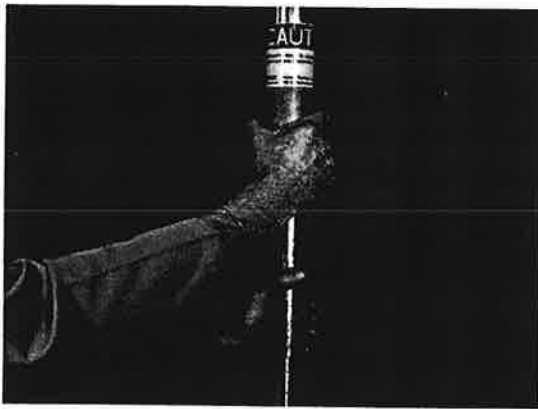

Figure 23. Rotate Feed Tube
- A. By rotating feed tube clockwise, extend drill until it contacts pipe. See Figure 23. The feed tube should be at the first mark on the body tube (lower-in distance). Rotate slowly during the last inch of travel to prevent damage to the drill tip. After the measurement has been checked, turn feed tube counterclockwise 3/4 of a turn before proceeding to the next step.